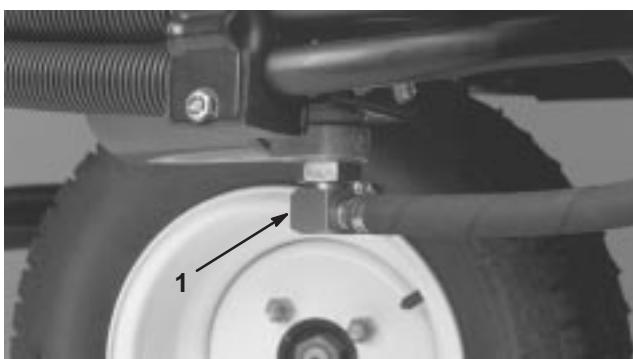
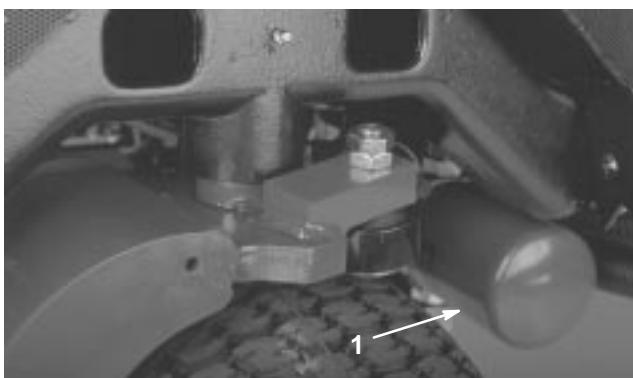

Figure 52
Figure 53
- Disconnect the hydraulic line (Fig. 52) or remove the hydraulic filter (Fig. 53) and let the hydraulic fluid flow into a drain pan. Install the hydraulic line when hydraulic fluid stops draining.
- Clean around the filter mounting area. Place a drain pan under the filter (Fig. 53) and remove the filter.